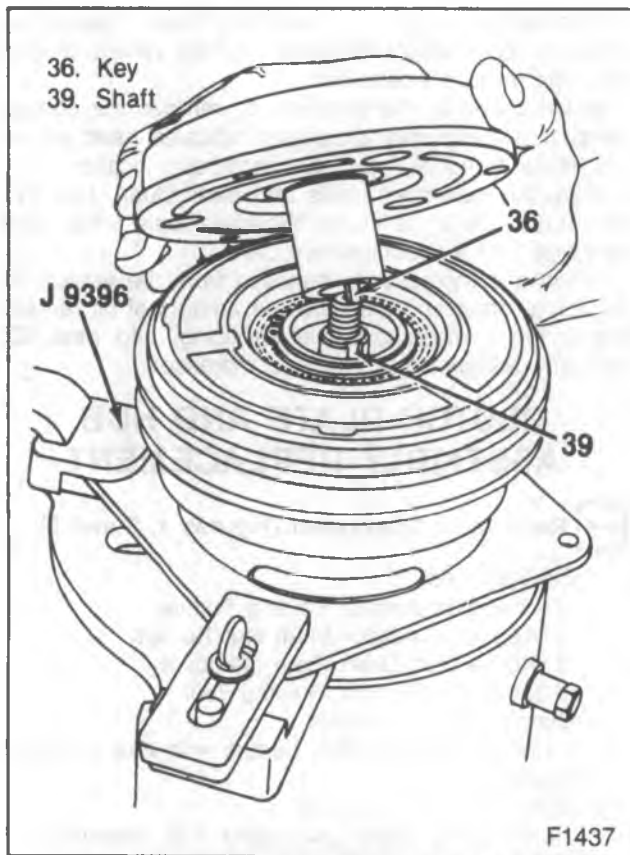

Figure 4—Aligning the Drive Plate Key
1. Shaft key (36).
- Allow the shaft key (36) to extend 4.5 mm (3/16-inch) out of the bottom of the hub keyway (figure 4).
- The shaft key (36) is curved to give an interference fit in the groove.
- Do not drive or pound on the clutch hub or the shaft (39). Internal damage to the compressor may result.
2. Clutch plate and hub assembly (2) (figure 4).
- Install the clutch plate and hub assembly (2) over the compressor shaft lining up the key slot on the hub with the keyway slot in the shaft.